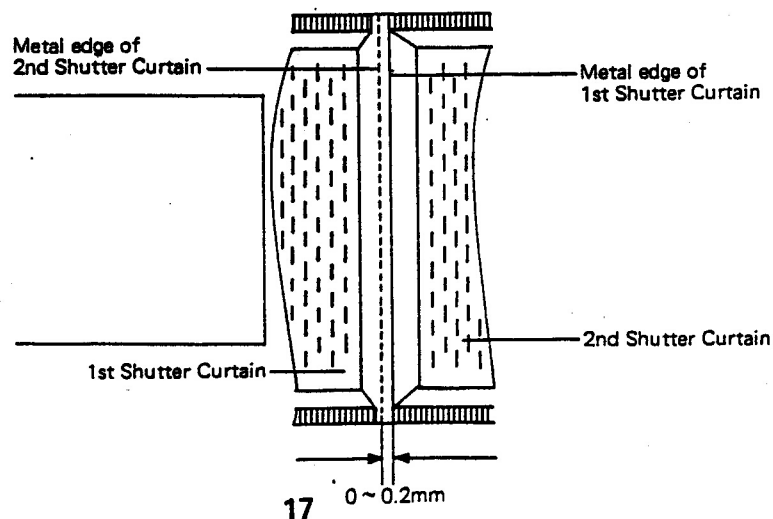

**Fig. 29**
- The metal edge of the 2nd shutter curtain should be located on the center of  as shown in (fig. 29).